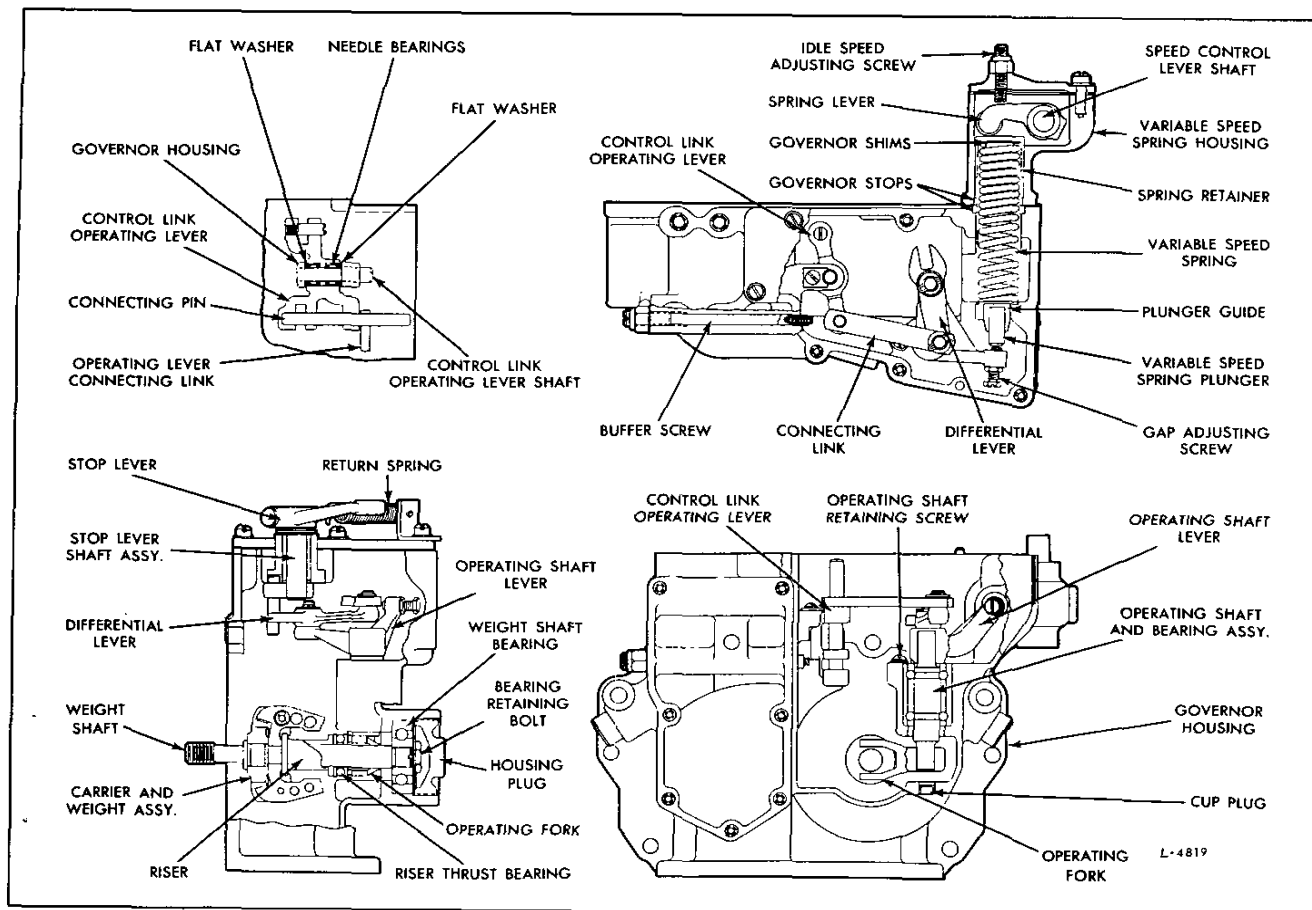

Fig. 1 – Cross Sections of Variable Speed Mechanical Governor
The variable speed mechanical governor, illustrated in Fig. 1, performs three functions:
The centrifugal force of the revolving governor weights is converted into linear motion which is transmitted through the riser and operating shaft to the operating shaft lever (Fig. 1). One end of the operating shaft lever bears against the variable speed spring plunger, while the other end provides a changing fulcrum on which the differential lever pivots.
With the governor cover removed from the governor housing, refer to Fig. 1 and disassemble the cover as follows:
- b. Remove the governor weight housing plug and gasket (Fig. 1).